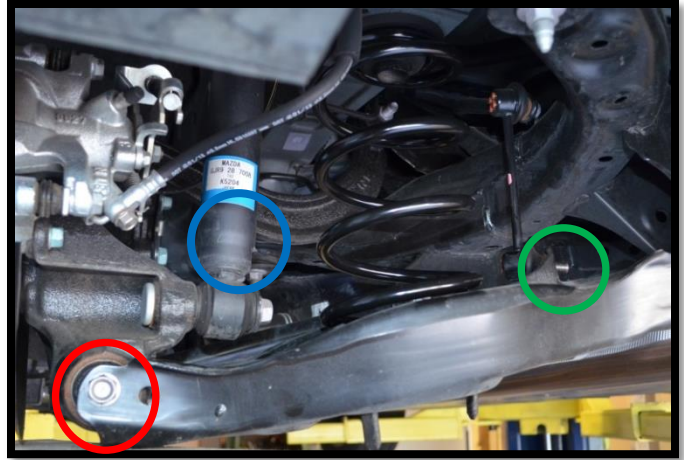

Figure 6a
- a) Locate the CorkSport rear shock onto the lower shock stud. Shown with blue circle in figure 6a. Loosely attach washer and nut removed in step 4c.
- e) Line up the bolt holes at the end of the control arm and the spindle. Insert the 17mm bolt and tighten to 64-77ft-lbs (red circle in Figure 6a). The jack can now be removed.
- g) Tighten 19mm lower shock mount nut to 62-73ft-lbs. (blue circle in figure 6a).
- h) Re-connect the sway bar end link and tighten the 14mm nut to 34-40ft-lbs (green circle in Figure 6a).